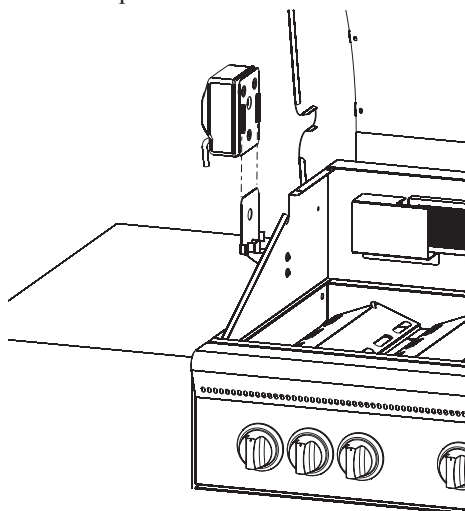

Figure 10
11. Slide motor into position on motor bracket. See Figure 10.